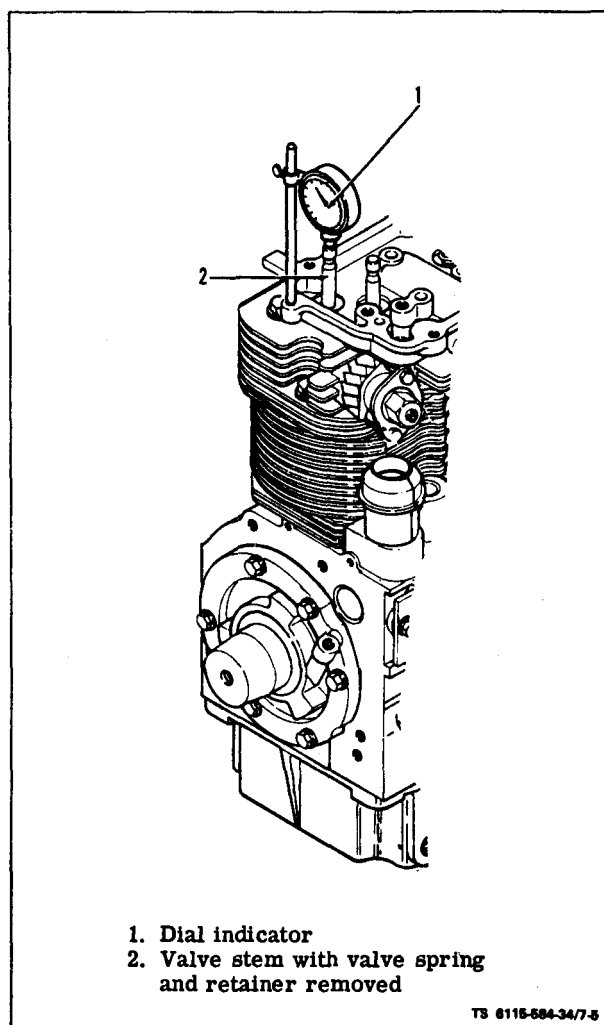

Figure 7-5. Measuring Top Dead Center
(3) The flywheel (1) is a tapered fit on the crankshaft (2). Remove flywheel mounting screw (3) and washer (4). Support and remove flywheel and ring gear assembly by using a two pronged wheel puller inserted through the slots provided in the flywheel.
b. Clean and Inspect. Clean the flywheel and ring gear assembly (1) using solvent. Check the ring gear for broken or worn teeth.
c. Install. Replacement flywheels are supplied with timing marks already stamped in place. The engine must still be timed properly to this timing mark. The only accurate method of determining the port closing point is to measure piston travel. This is a critical measurement and should be done only with accurate, dependable equipment. Mount flywheel keying properly and tighten in place using screw (3) and washer (4), (figure 7-3). With the flywheel mounted, rotate flywheel counterclockwise until Number 1 cylinder is on its compression stroke, which follows the closing of its intake valve. Remove the exhaust rocker arm (3, figure 7-9), exhaust valve rotator (1, figure 7-11), valve looks (2), spring retainer (3) and spring (5). using fabricated tool (see figure 7-10). Allow exhaust valve to drop down onto top of piston. Rotate flywheel counterclockwise until piston is at Top Dead Center. This can be measured on top of exhaust valve stem with a dial indicator (see figure 7-5).